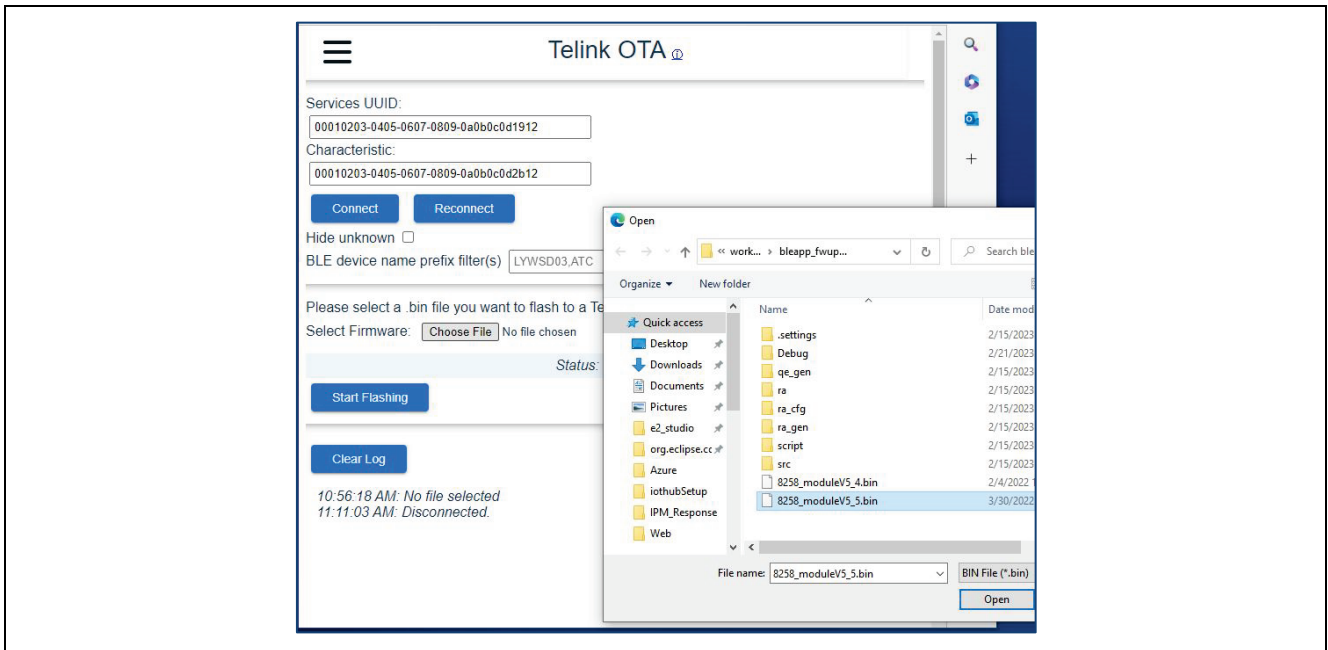

Figure 34. Windows PC Update – Choose Firmware Bin File
- Use “**Choose File**” to select Firmware BIN file from the e² studio project workspace in the project directory `bleapp_fwupdate_ryz012_ra4m2_baremetal/8258_moduleV5_4.bin` or `8258_moduleV5_5.bin`. See Figure 34.